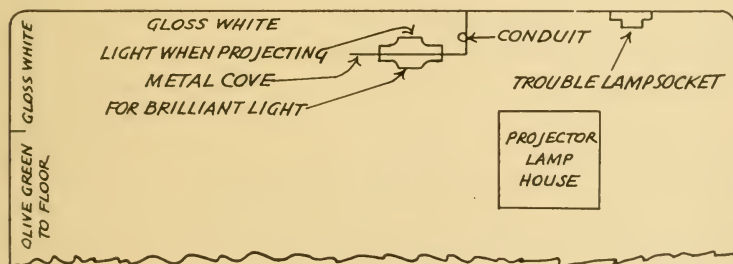

FIGURE 70
(43) Enter any well illuminated projection room, take your place in working position beside a projector, watch the screen—then suddenly have the room illumination turned off. You will be amazed at the increased clearness with which the picture details on the screen can be discerned.
(44) Following is what we regard as a good plan for projection room illumination. Fig. 70 shows an end view of a sheet metal cove attached to the ceiling, its length extending to within six feet or less of each wall.
Enough incandescent lamps should be installed in the cove to provide a reasonable amount of illumination during projection. Fig. 70 shows that the light source lamps are completely concealed from view of the projectionist except when he is near the rear wall. We also see that all light comes in diffused form from the rear of the ceiling and from the top of the rear wall, falling upon the back of the projectionist and not upon his eyes when he is in working position beside the projector. The rear of the room can be well illuminated. The only possible objection to this plan is that the equipment will throw shadows on the front wall, but this is of little importance. Projectionists who have used this lighting system prefer it above all others.